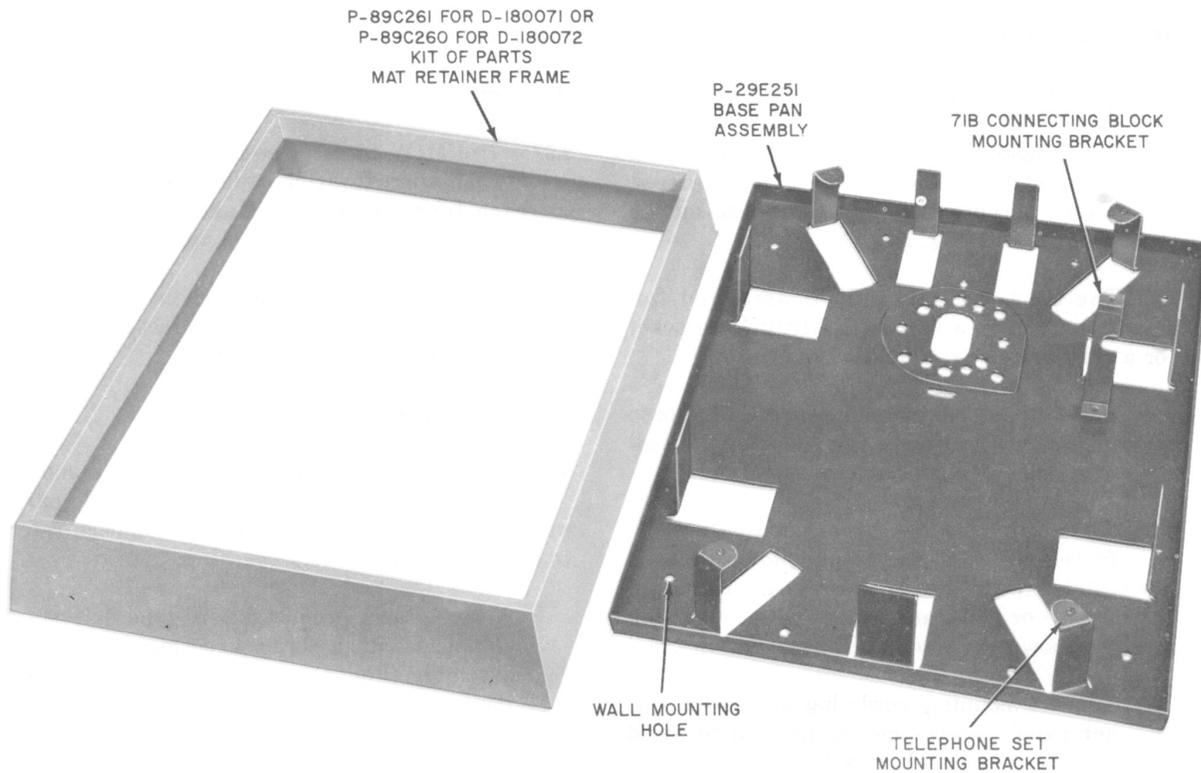

Fig. 2—D-180071 or D-180072 Kit of Parts For Surface Mounting
(1) The D-180071 (light gray frame) or D-180072 (light beige frame) Kit of Parts, ordered separately, permits mounting these sets on the surface of a wall (Fig. 2).
(2) The base pan assembly is arranged for mounting on a 63A or KS-19407L1 bracket or a standard electrical outlet box.
(3) After securing the base pan to the wall fasten the 71B connecting block (ordered separately) to the bracket provided. Terminate inside wire or cable and telephone set mounting cord as shown in appropriate connection figure.
(4) Connect mounting cord plug to connector on set panel. Dress mounting cord to avoid interference with telephone set components.
(5) Align panel of set with mounting screws furnished with the set.
(6) Position mat on panel and secure using plastic frame (P-89C260 or P-89C261) from kit of parts.